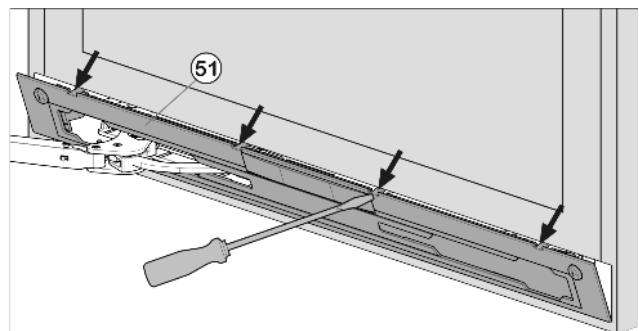

Fig. 18
▶ Release panel *Fig. 18 (1)* using slotted screwdriver and remove.